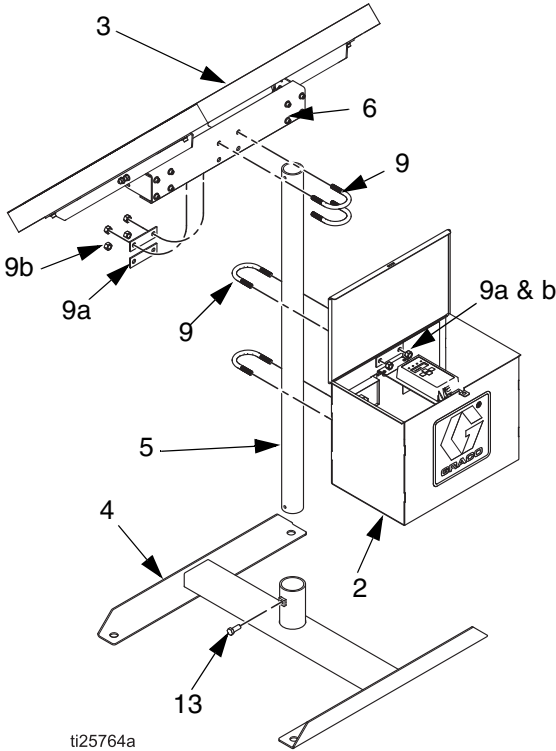

FIG. 2 Stand Unit Assembly
1. Place the base (4) in the desired location with the middle cross bar pointing true north/south. See FIG. 2.
1. Loosely attach two u-bolts (9), and their corresponding mounting plates (9a) and nuts (9b), to the solar pole mount hanger (6) attached to the back of the solar panel (3). See FIG. 2.
2. Carefully slide the solar panel assembly onto the pole (5), turn the solar panel (3) and tighten the u-bolt nuts (9b) until the panel is tight to the pole.
1. Set the control box (2) on the base (4).
2. Using two u-bolts (9), and their corresponding mounting plates (9a) and nuts (9b), loosely attach the control box (2) to the post (5). See FIG. 2.